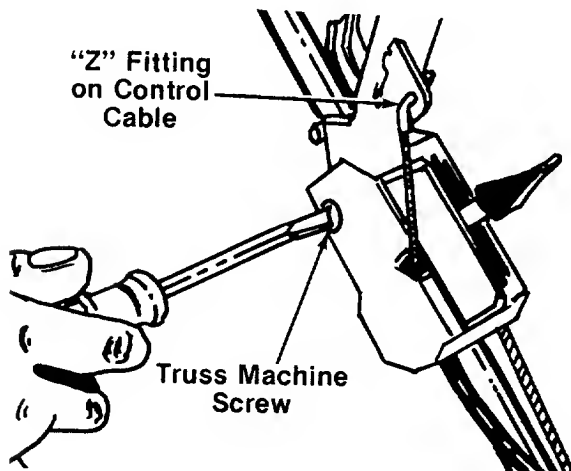

FIGURE 19.
5. Remove one truss machine screw on the inside of the control housing as shown in figure 19.